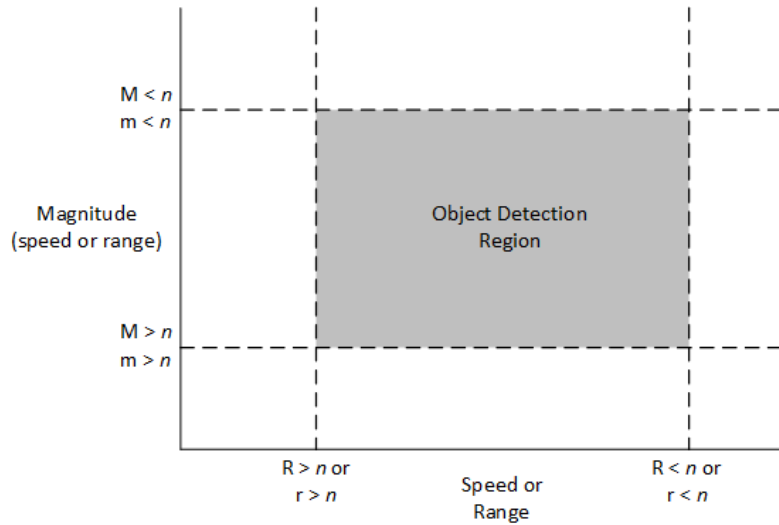

Figure 9. Speed, Range and Magnitude Filtering
**Simple Object Detection Interrupt** – a simple output which trips if an object in motion or object in range is detected. The signal is toggled on the interrupt pin (pin 3, J8 on OPS242; pin 6, J5 OPS241; pin 3, J3 on OPS243). For the Doppler (-A, -C) radar sensors, the pin is high when no motion is present and low when motion is detected. For the FMCW (-B, -C) radar sensors, the pin is high when no object is in the detected region and set low when and object is detected in the detection region. For Doppler (-A, -C) radar sensors the interrupt can be filtered on speed ( $R > n$ ,  $R < n$ ), signal magnitude ( $M > n$ ,  $M < n$ ), and direction ( $R+$ ,  $R-$ ,  $R|$ ). For FMCW (-B, -C) radar sensors, the interrupt can be filtered on range ( $r > n$ ,  $r < n$ ) and signal magnitude ( $m > n$ ,  $m < n$ ). Figure 9 shows how filtering can allow detection for certain objects and mask out others.